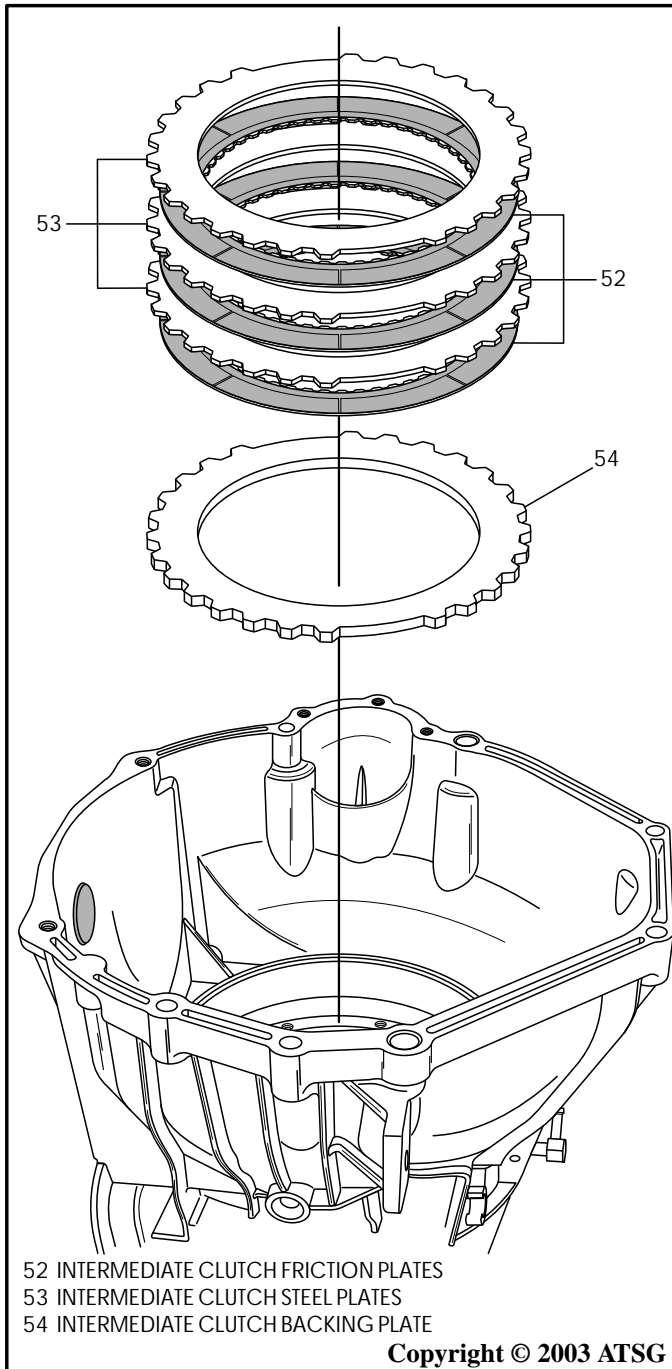

Figure 65
18. Remove the intermediate clutch pack and the backing plate, as shown in Figure 65.